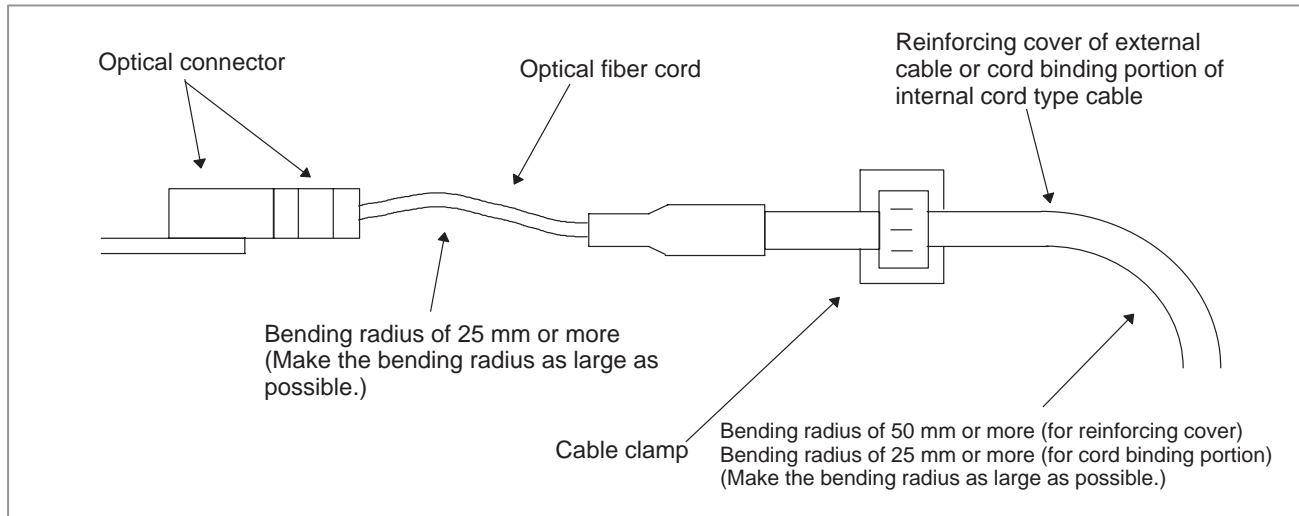

Fig. D.5 Fixing the cable with a clamp
- Fix the reinforcing cover of the external cable or the cord binding portion of the internal cord type cable by using a cable clamp, as shown in Fig. D.5, to prevent the weight of the optical fiber cable from being applied directly to the connecting part of the optical connector.